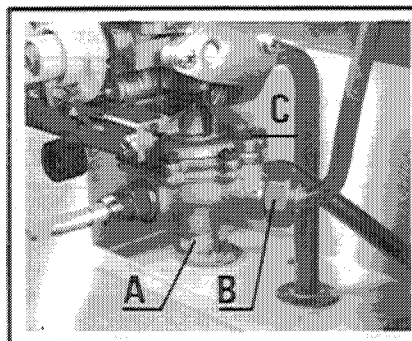

Fig. 10
- To remove, drain the heater by unscrewing the water governor A (fig. 10), collecting the water in a basin below the heater.
Diaphragm (fig. 10).